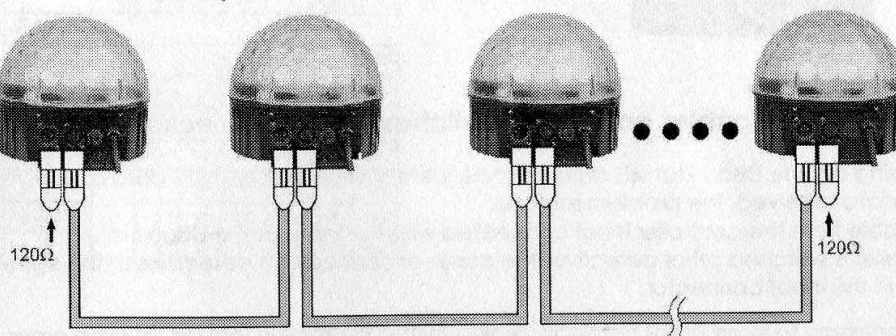

Fig. 3
3. Link the units as shown in (Fig. 3). Connect a DMX signal cable from the first-unit's DMX "out" socket to the second unit's "in" socket. Repeat this process to link the second, third, and fourth units.